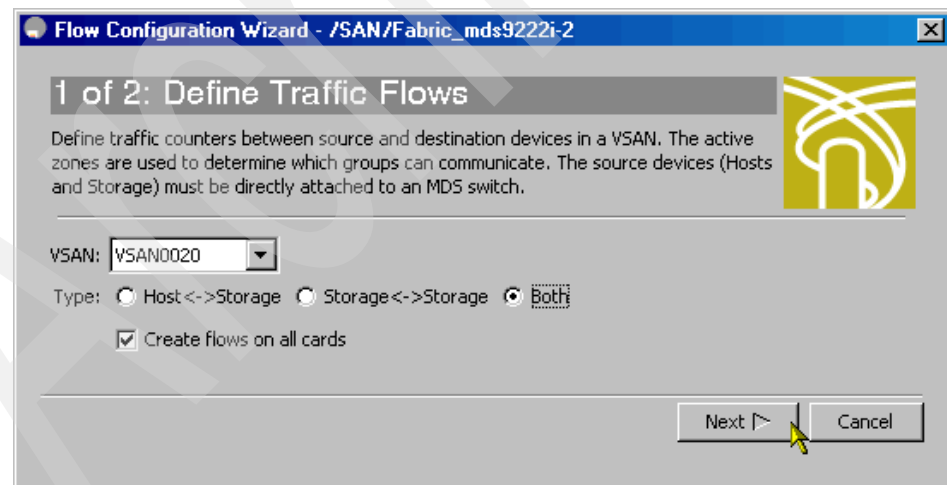

Figure 8-37 Define flow conditions
2. Specify a VSAN to define a flow and specify the type of traffic to capture data, as shown in Figure 8-37.